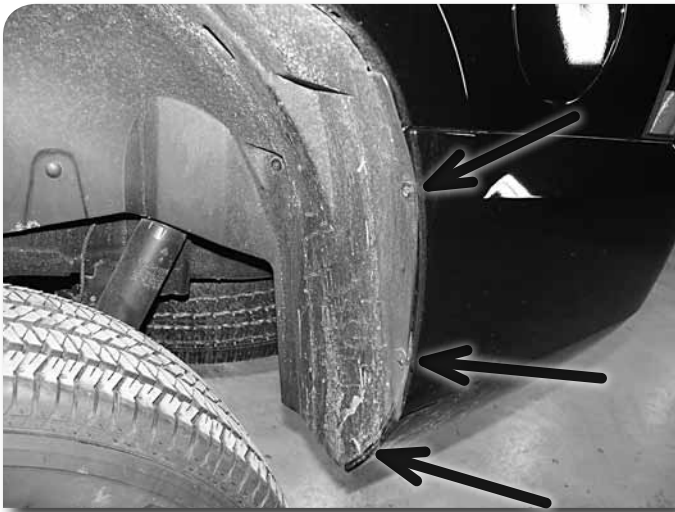

Figure 8
17. Remove 3 bolts in each wheel-well at rear of vehicle **Figure 8**.